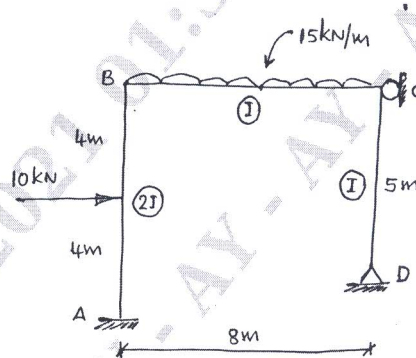

Fig.Q3
- 3 Analyse the frame shown in Fig. Q3 by flexibility matrix method. Draw BMD. Use element approach. (20 Marks)